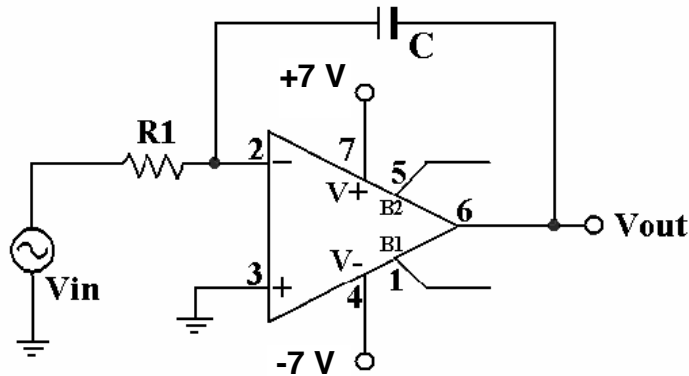

Fig 1. Inverting integrator circuit
*Integrator:* The circuit in Fig. 1 is the lossless inverting integrator. As the name suggests, the circuit generates an output signal that corresponds to the integral of the input signal over time. The circuit can be analyzed using the standard Op-amp analysis techniques mentioned in class.